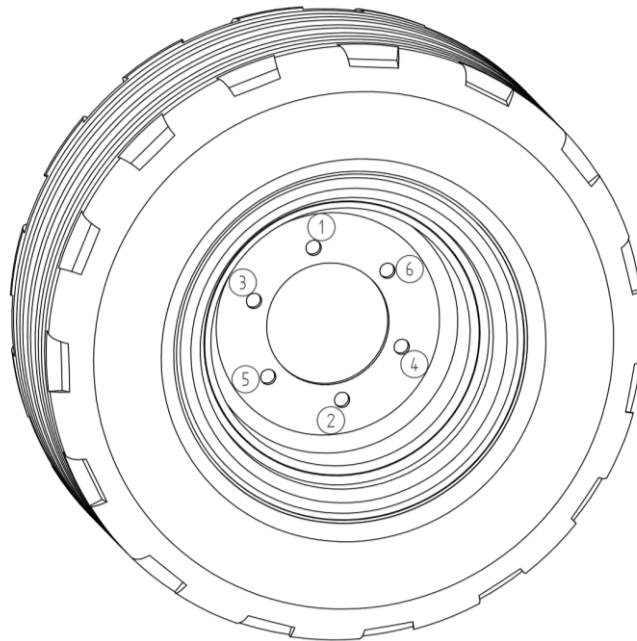

Figure 13. Wheel tightening sequence
- Lower the rake and tighten the nuts to the recommended torque and in the order shown in Figure 13.